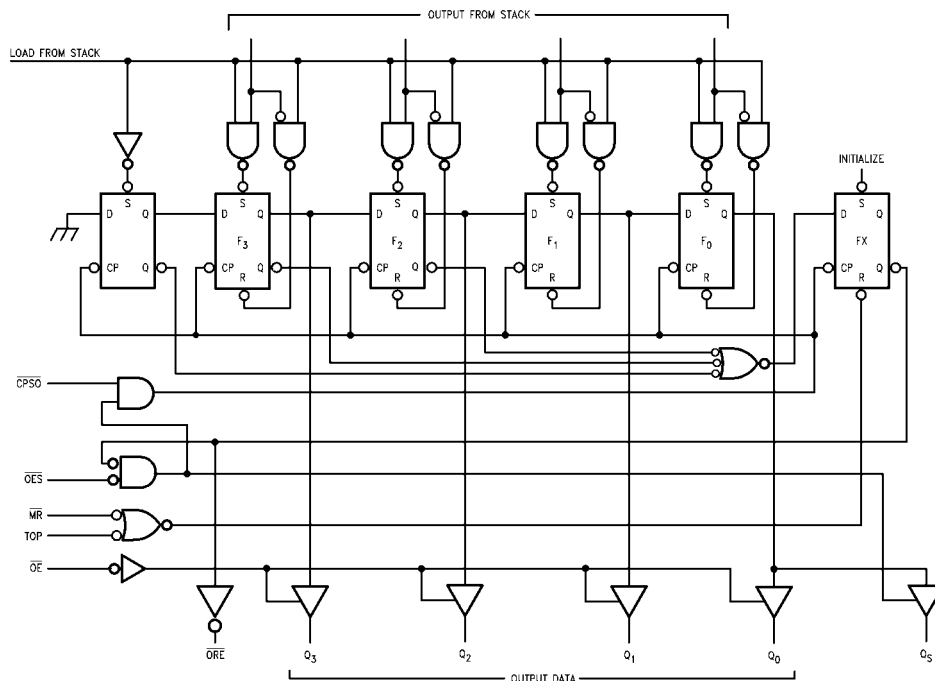

FIGURE 3. Conceptual Output Section
The Output Register receives 4-bit data words from the bottom stack location, stores it and outputs data on a 3-STATE 4-bit parallel data bus or on a 3-STATE serial data bus. The output section generates and receives the necessary status and control signals. Figure 3 is a conceptual logic diagram of the output section.
**Serial Data Extraction**— When the FIFO is empty after a LOW pulse is applied to  $\overline{MR}$ , the Output Register empty ( $\overline{ORE}$ ) output is LOW. After data has been entered into the FIFO and has fallen through to the bottom stack location, it is transferred into the Output Register provided  $\overline{TOS}$  is LOW and  $\overline{TOP}$  is HIGH. As a result of the data transfer  $\overline{ORE}$  goes HIGH indicating valid data in the register. The 3-STATE Serial Data Output,  $Q_5$ , is automatically enabled and puts the first data bit on the output bus. Data is serially shifted out on the HIGH-to-LOW transition of  $\overline{CPSO}$ . To prevent false shifting,  $\overline{CPSO}$  should be LOW when the new word is being loaded into the Output Register. The fourth transition empties the shift register, forces  $\overline{ORE}$  output LOW and disables the serial output,  $Q_5$  (refer to Figure 3). For serial operation the  $\overline{ORE}$  output may be tied to the  $\overline{TOS}$  input, requesting a new word from the stack as soon as the previous one has been shifted out.